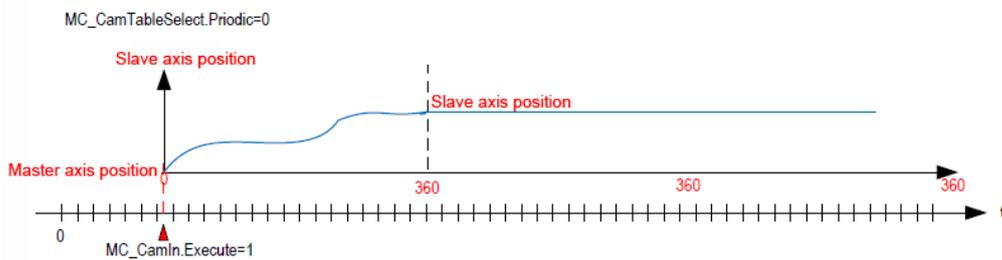

Figure 8-2 Single cycle mode
(1) Single cycle mode (Periodic:=0): After the cam table cycle is completed, the slave shaft leaves the cam running state, as shown in Figure 8-2.